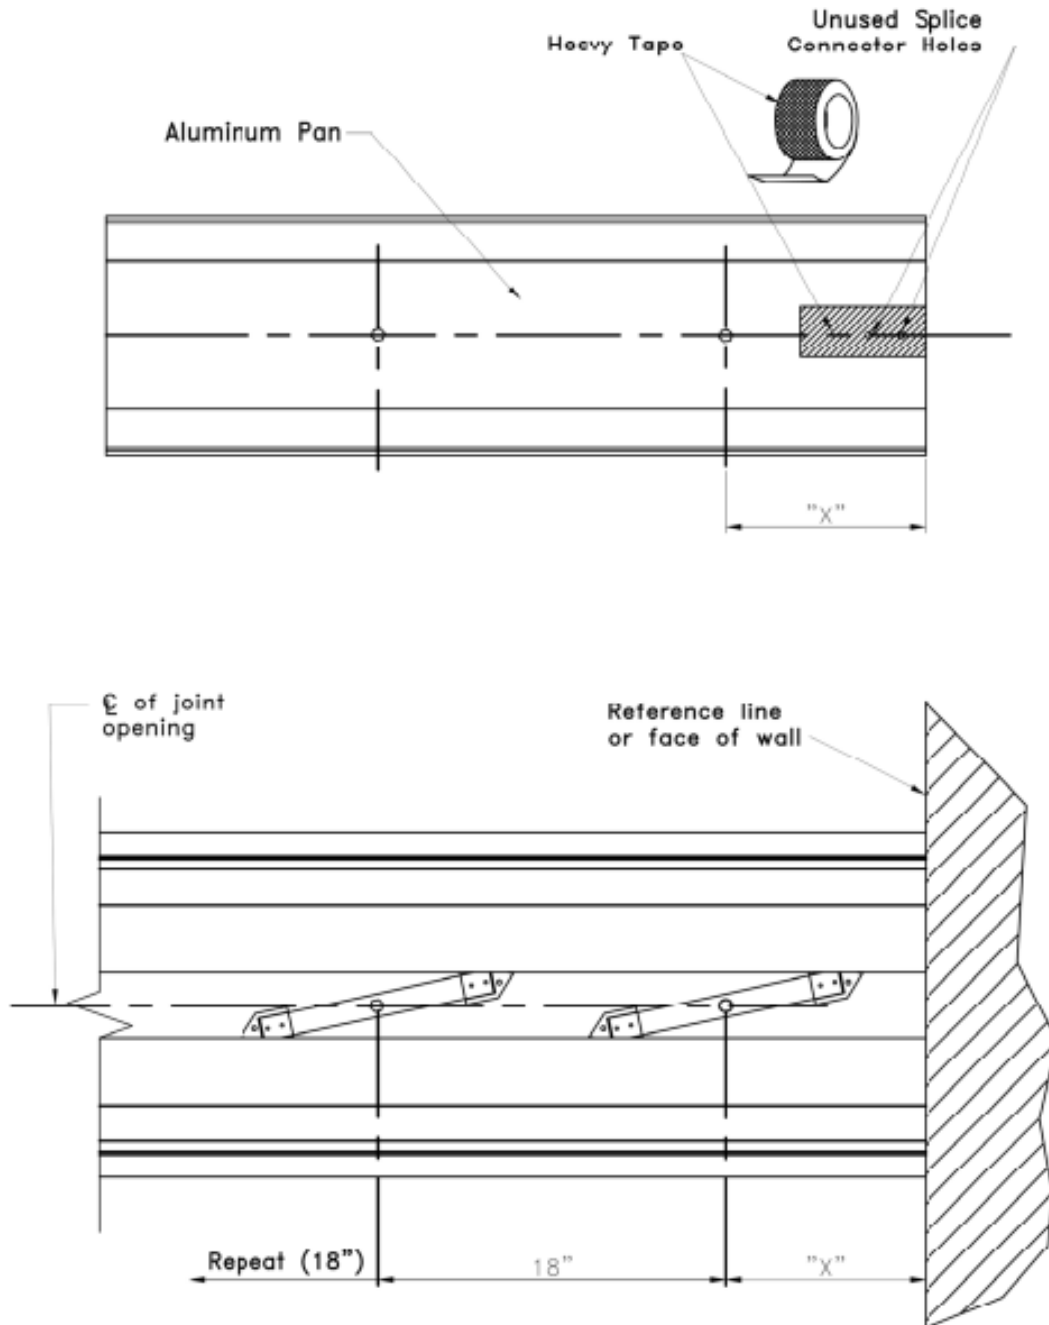

FIGURE 6
6. Use heavy tape to cover unused splice connector holes (this will be at the first aluminum pan to be installed against the wall). Take measurement “X” of aluminum pan and align first self-centering bar to this dimension as shown. This step is to double check for accuracy before installing aluminum pan. **SEE FIGURE 6**